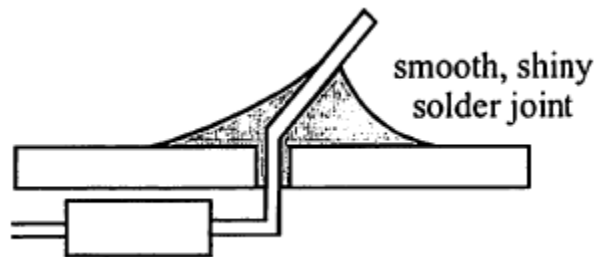

Figure 15.8 A successful solder joint.
5. When the work has been heated momentarily, apply the solder to the work (not the soldering iron) and it should flow fluidly over the surfaces. Feed enough solder to provide a robust but not blobby joint. (If the solder balls up on the iron the work is not hot enough.) Smoothly remove the iron and allow the joint to solidify momentarily. You should see a slight change in surface texture of the solder when it solidifies. If the joint is ragged or dull you may have a cold joint, one where the solder has not properly wetted the elements. Such a joint will create problems in conductivity and must be repaired by resoldering. Figure 15.8 illustrates a successful solder joint where the solder has wet both surfaces, in this case a component lead in a metal hole perforated board.